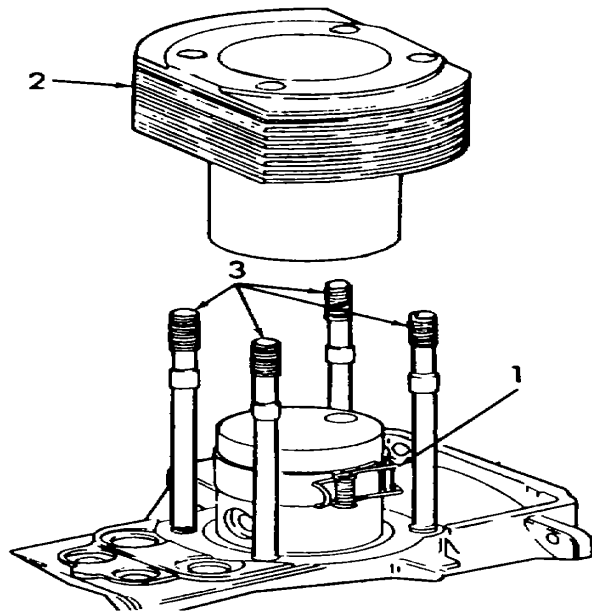

Figure 5-26. Cylinder Installation.
d. Installation. (Refer to figure 5-26).
- (1) Check that piston rings are offset by 120 degrees.
- (2) Compress piston rings with piston ring clamp (1).